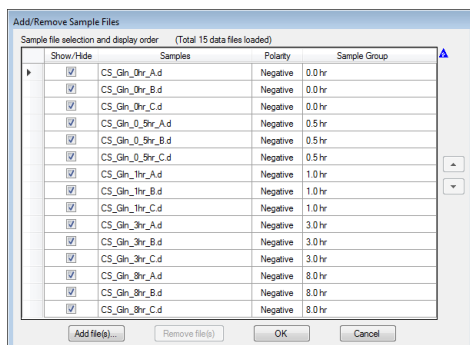

Figure 42 Sample group values and order for the example Profinder project
- d Repeat these steps until your samples and sample groups are in the order you want them to appear in *Isotopologues Results* (Figure 42).